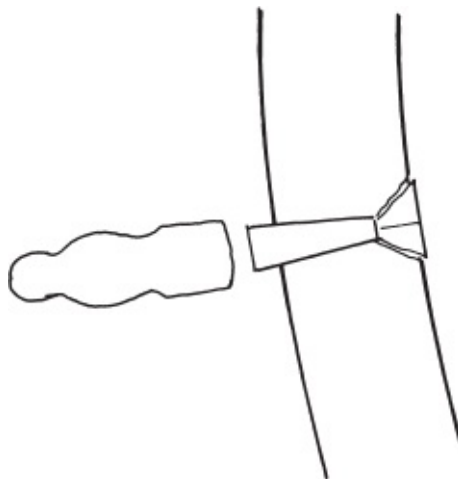

FIGURE 84 } If the trim is tapped in too hard without the planking being supported by the frames, pieces of wood may crack on the inside of the planking.
- 9 *Mount the strip.* The adhesive lubricates the trim so that it goes in more easily. If the boat is round, the trims may have to be secured with nails at the ends so that they don't pop out after a while. Use a hammer and a block to tap in the strip. Sometimes on caulked boats you see that the trim has been tapped in so tightly that the planking has cracked on the inside. Take it easy and tap just in front of the frames (see Figure 84).